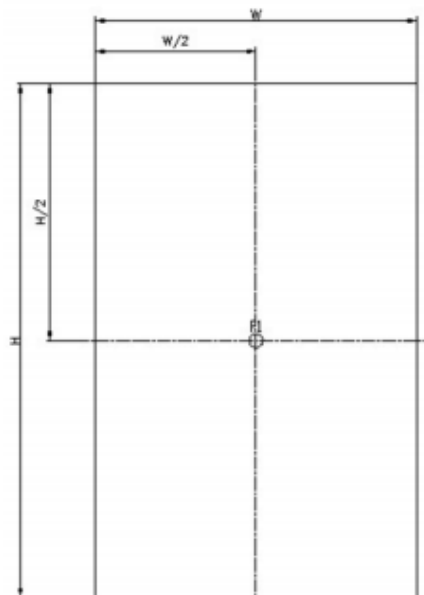

Figure 1. Measurement Set Up
1. Viewing angle is the angle at which the contrast ratio is greater than 10. The viewing angles are determined for the horizontal or 3, 9 o'clock direction and the vertical or 6, 12 o'clock direction with respect to the optical axis which is normal to the LCD surface (see FIGURE 1).
2. Contrast measurements shall be made at viewing angle of  $\Theta = 0$  and at the center of the LCD surface. Luminance shall be measured with all pixels in the view field set first to white, then to the dark (black) state. (see FIGURE 1) Luminance Contrast Ratio (CR) is defined mathematically.